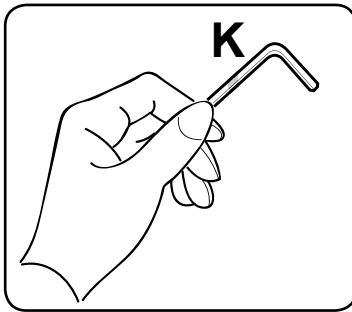

fig. 7.1
**7** **NOTE:** This product is factory set for a 19" (483 mm) monitor. When changing the size of the monitor, adjust the control bolt with 4 mm allen wrench (**K**) as shown in figure 7.1.